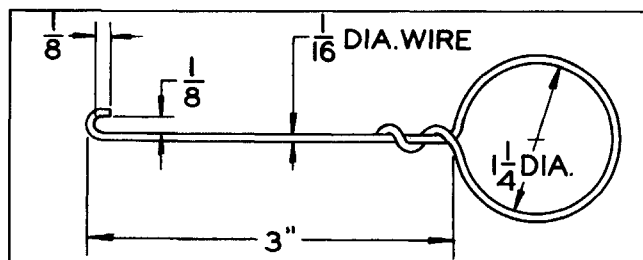

Fig. 6B-29 Wire Hook For Installing Throttle Return Spring—Carter
8. Install vacuumer piston link and metering rod spring assembly in slot with protruding lip toward air horn (Fig. 6B-28).